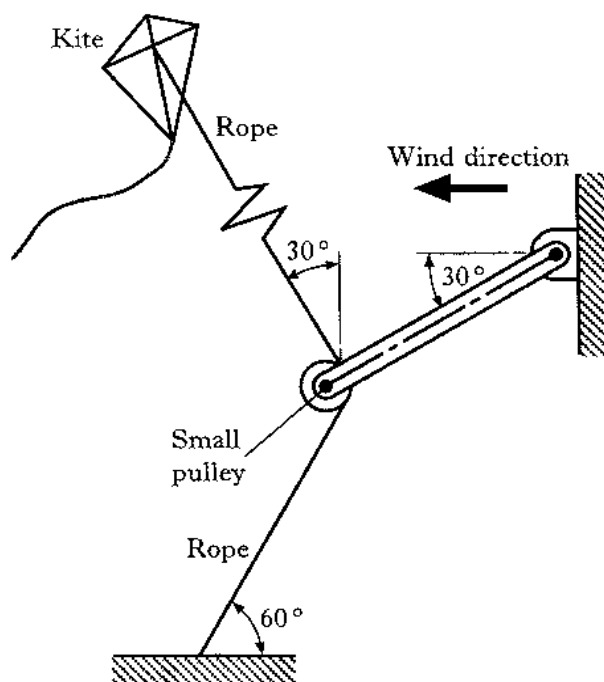

Figure Q3
3. Figure Q3 shows a frictionless pulley system which is used by a professional display team when flying large kites.